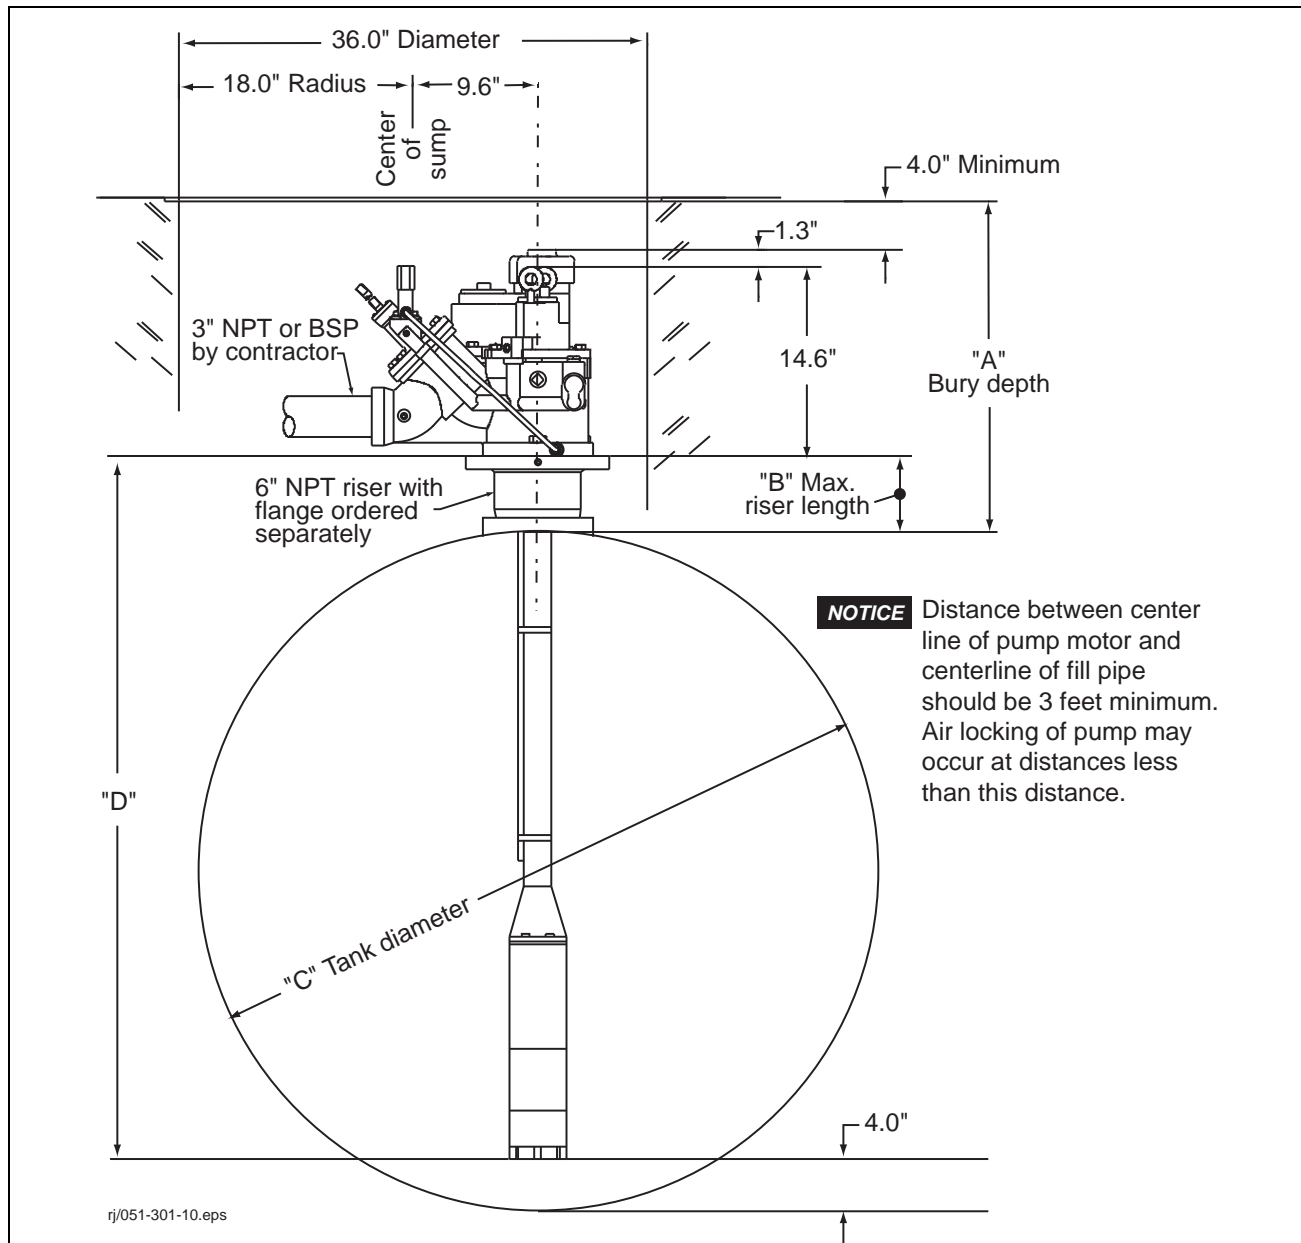

Figure 8.
3. Check the equipment which was received against Table B and Figure 8 for the tank diameter and bury depth.
4. After the above checks have been made, the backfill can be completed and the manholes installed as shown in Figure 8.